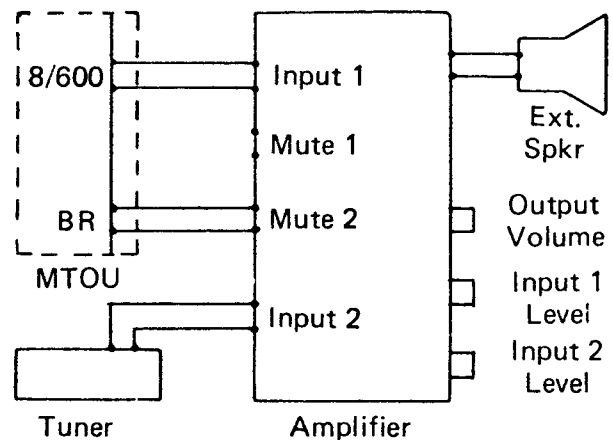

FIGURE 45
12.77 To provide external BGM control, obtain and install the optional BR (K1) relay on the MPRU PCB, see Paragraph 05.11. Connect the BR terminals on the MPRU to the control terminals (mute, mike switch, etc) on the amplifier (see Figure 45).